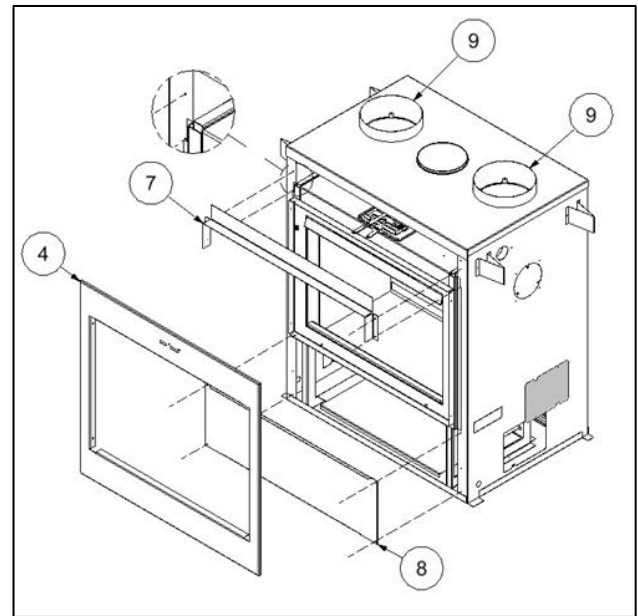
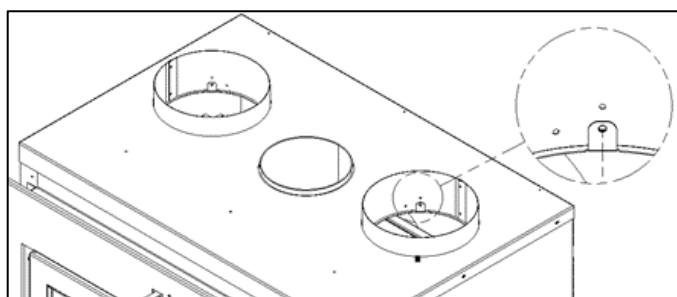

Figure 3-16: Clean Face Surround Installation
Figure 3-20: Installation of 8 Inch Duct Adapters
2. Align the Clean Face lower cover (Item 8) and fasten it in place (Figure 3-16).
3. Bend the ends of the Clean Face upper cover (Item 7), align it and fasten it in place (Figure 3-16).
4. Place the surround (Item 4 in Figure 3-16) within the door holder and secure it in place with 4 black screws (one on each corner). Make sure that the handles of the Combustion Air Control pass through the slots of the surround.
10. Install the 8 inch duct adapters (Item 9 in Figure 3-16) through the newly cut knockouts and screw them to the bent tabs (Figure 3-20).